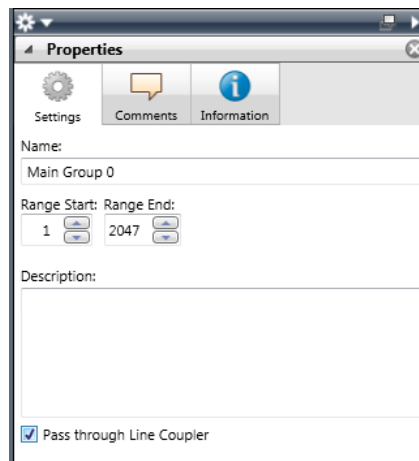

Figure 249: Setting the **Pass through Line Coupler** option.
1. Enable the switch **Pass through line couplers** option in the ETS4 group address or group range options, as shown in Figure 249. If this switch is set, the couplers will forward the group addresses towards the main line.